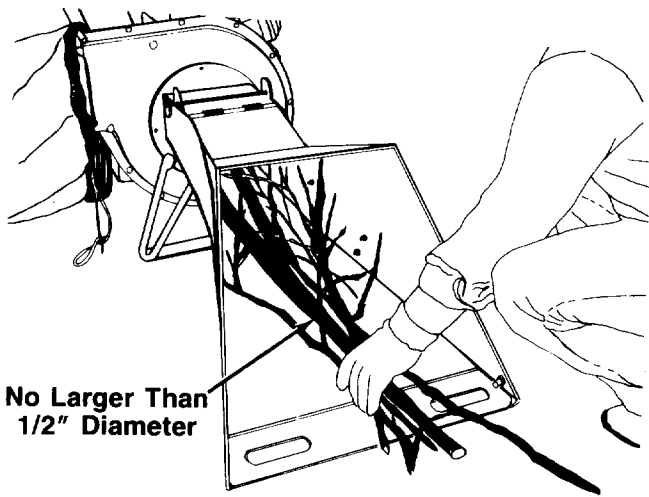

**FIGURE 10.**
- Leaves and small branches up to 1/2" diameter can be fed into the hopper assembly when it is in the raised position. See figure 10. If it becomes necessary to push material into the chipper-shredder, use a small diameter stick—NOT YOUR HANDS. The stick should be small enough that it will be ground up if gets into the impeller assembly.